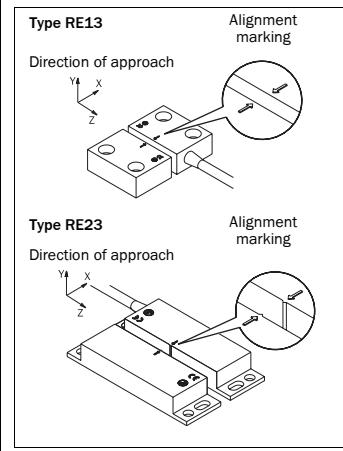

Fig. 5: Alignment of read head and actuator
- Note the possible operating positions in Fig. 5.